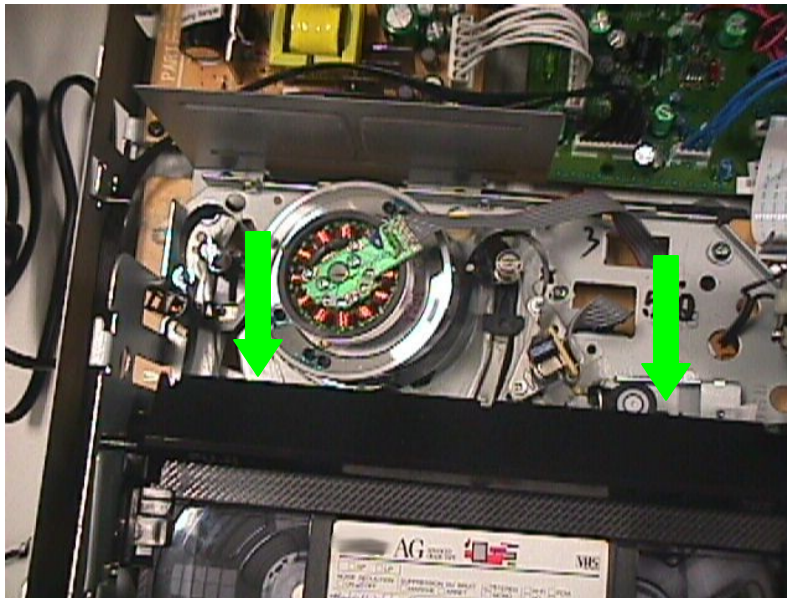

Figure 4 :Video Cassette Slowly reversed
4.The video cassette slowly reversed and raised to loading position in figure 4 .